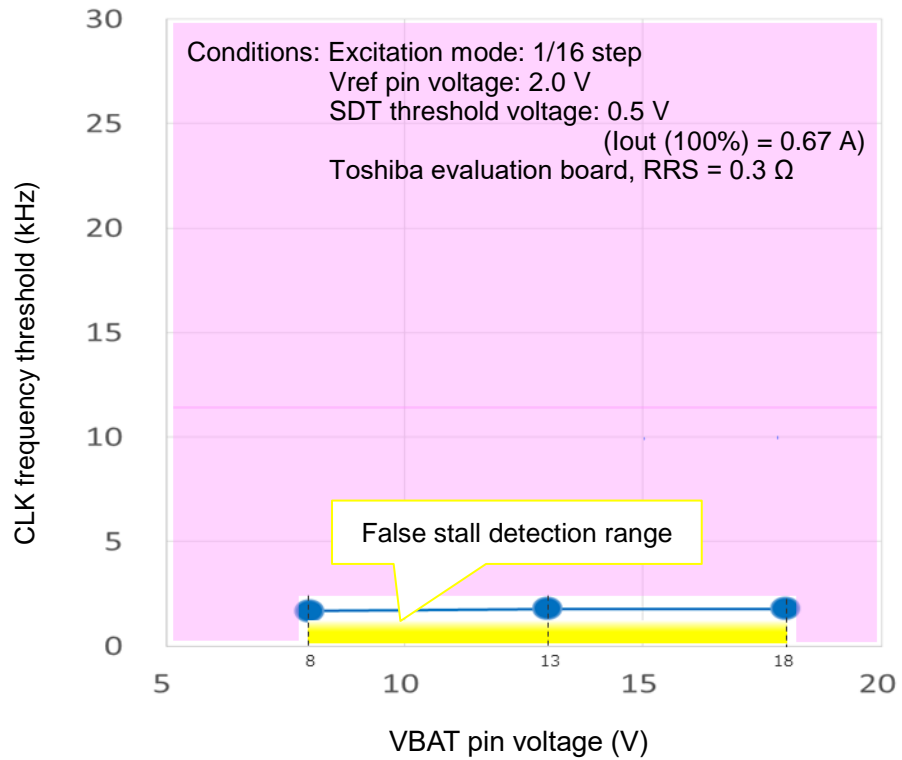

Figure 19. VBAT pin voltage vs. CLK frequency threshold (for reference)
- As shown in Figure 19, the result is as follows: